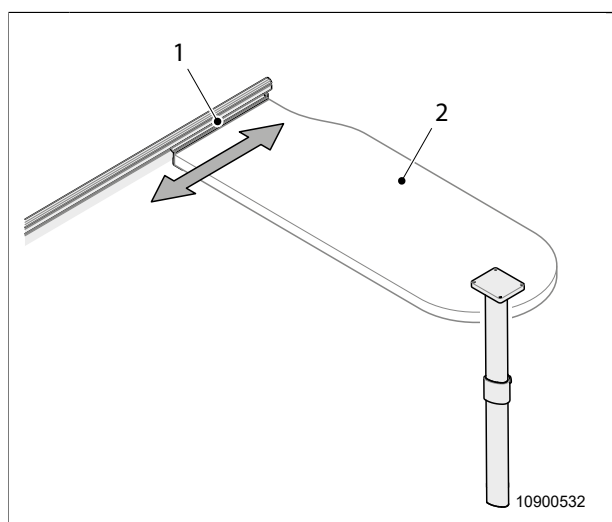

Fig. 22 Hook-in table
1. Lift the table top (Fig. 22, item 2) on the right-hand side.
2. Slide the lifted table along the guide rail (Fig. 22, item 1) into the desired position.